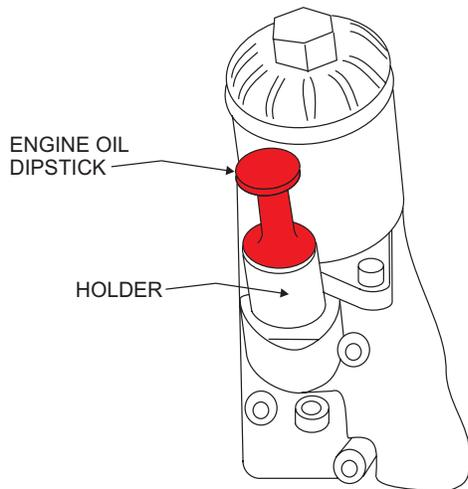

Figure 3. Dipstick Location
- If engine oil is low, fill engine crankcase with lubricating oil through filler hole (Figure 3), but do not overfill.
- Pull the engine oil dipstick (Figure 3) from its holder.